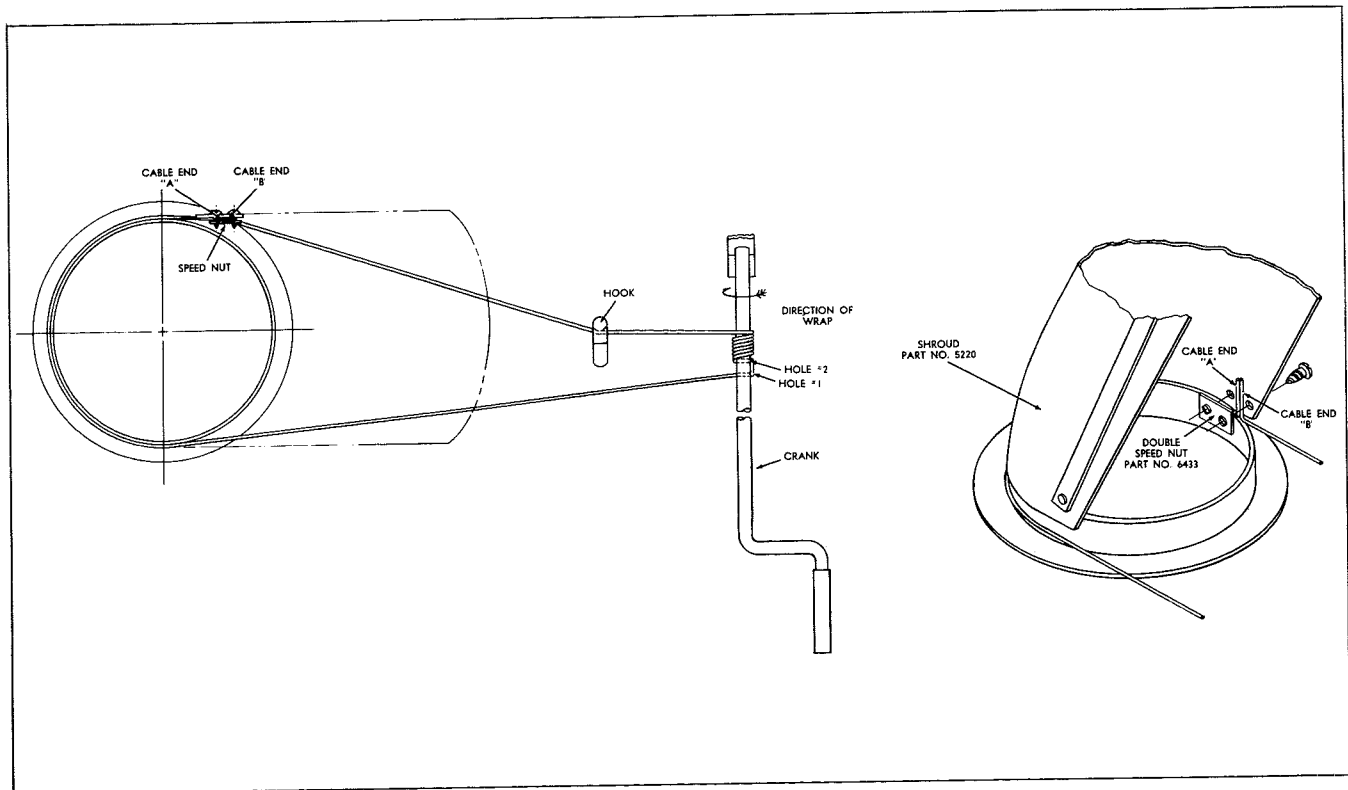

Figure 3
1. Face Shroud, Part No. 5520 to the right. (See Fig. 3.)